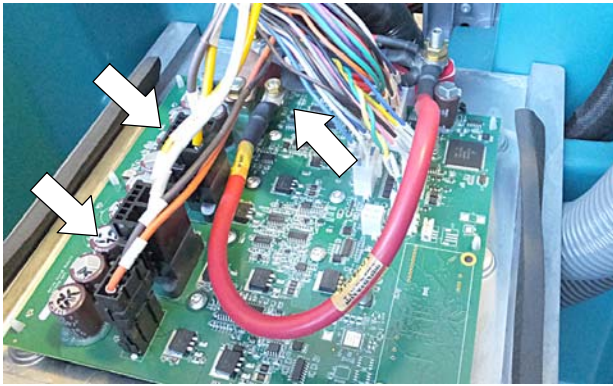

Fig. 5
7. Install new circuit board and reconnect the wire connectors and red cable (Figure 5).